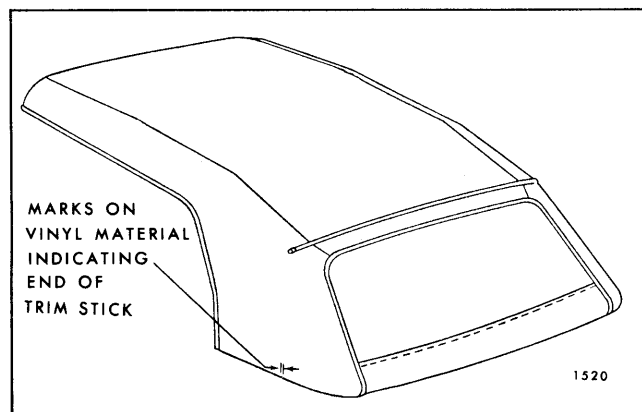

Fig. 13-7—Marking Top Material
21. Using a pencil, mark both ends of rear and rear quarter trim sticks on vinyl surface of top material (Fig. 13-7). Reference marks for trim sticks should be transferred to new top material when step 26 of installation procedure is performed.